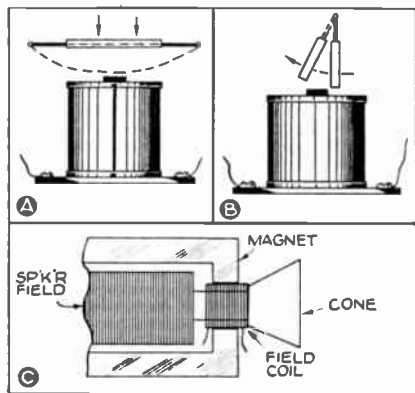

Fig. 21
The inductor-dynamic is purely a magnetic speaker. It does not have a field coil; and the "voice coils" correspond to the usual two (or four) magnet windings of the ordinary magnetic reproducer. However, in the latter instrument electromagnets are in permanently fixed relation to the armature, and operate to vary the strength of the field of permanent magnets. In the inductor-dynamic construction, the voice-coils, or electromagnets, are mounted on the moving armature. In addition, the armature does not approach and recede from the permanent magnets; instead, it swings past them. Thus, the armature is not limited in its swing (as when reproducing a low note) by the pole-tips of the permanent magnets. This mechanical action is clearly shown in Fig. 21 (A, magnetic; B, inductor; C, dynamic.)
(Q) I have a "B" eliminator of the type shown in Fig. 21. Please advise the range of the two variable resistors.